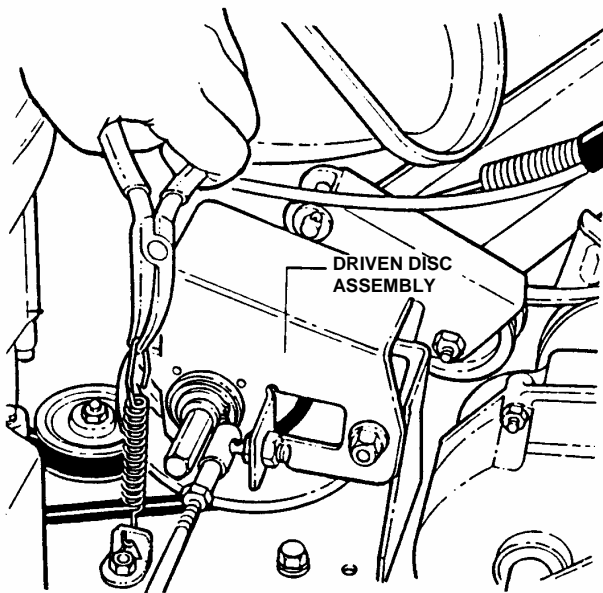

FIGURE 4.10
2. Using needle nose pliers, unhook the drive spring and slide the driven disc assembly off the hex shaft. See Figure 4.10.